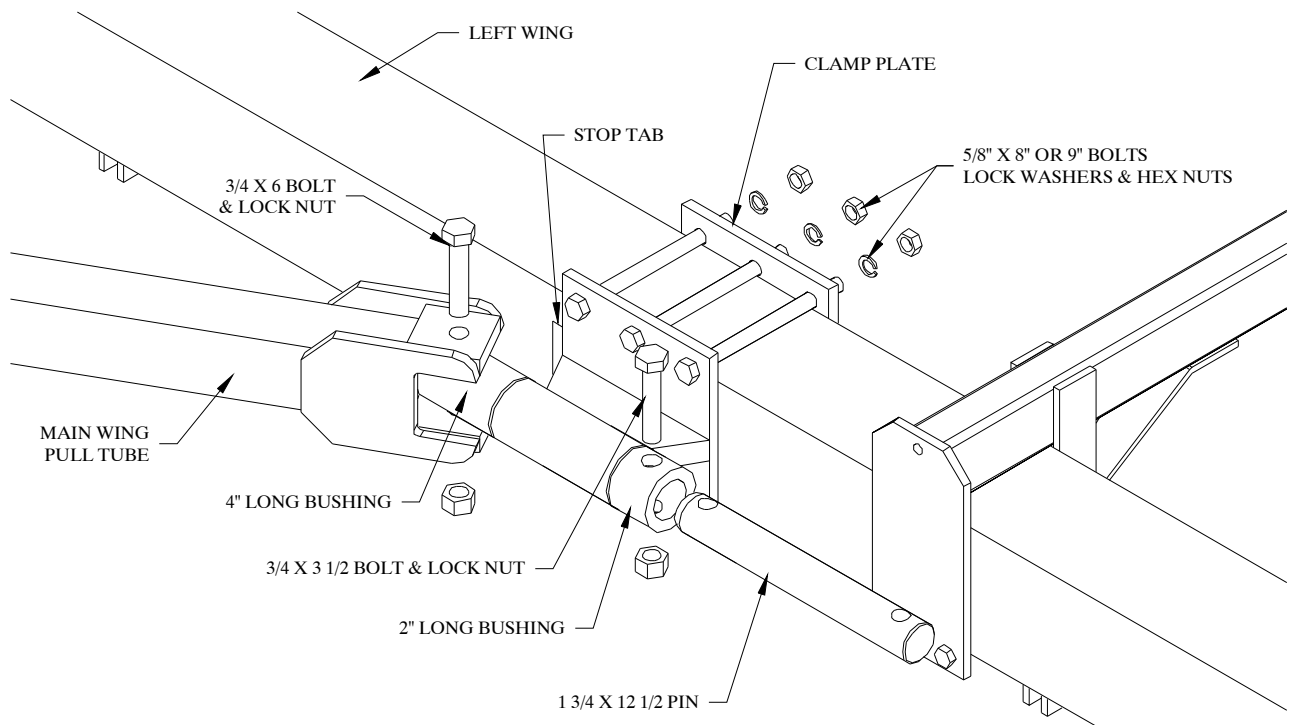

Figure 33
1. Attach the main pull tube anchor assembly to the wing as shown in Figure 33. Be sure the wing is in line with the center bar. Use six 5/8" x 8" bolts, lock washers, hex nuts and a clamp plate. Note: there is a stop tab welded to the wing to prevent the anchor assembly from sliding on the wing.